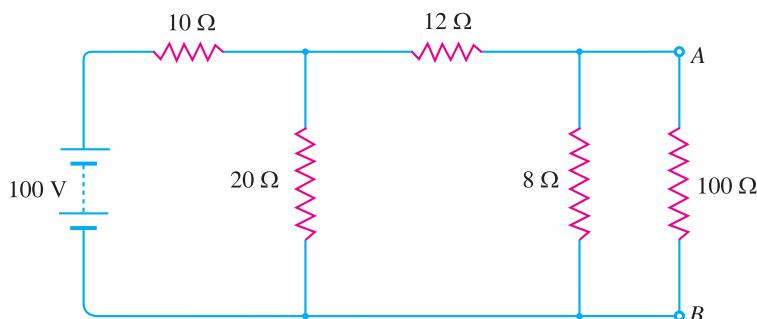

Fig. 1.27
**Example 1.8.** Using Thevenin's theorem, find the current through  $100 \Omega$  resistance connected across terminals A and B in the circuit of Fig. 1.27.